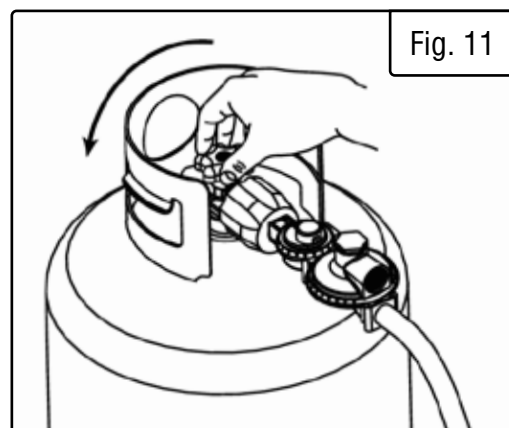

Fig. 11
4. Turn the LPG tank valve ON (Fig. 11) and check for leaks by spraying soapy water to check connections. If bubbles appear, become larger in size, or increase in number, a leak exists. This must be corrected before using generator. Contact your local Independent Authorized Service Dealer (IASD) for assistance.